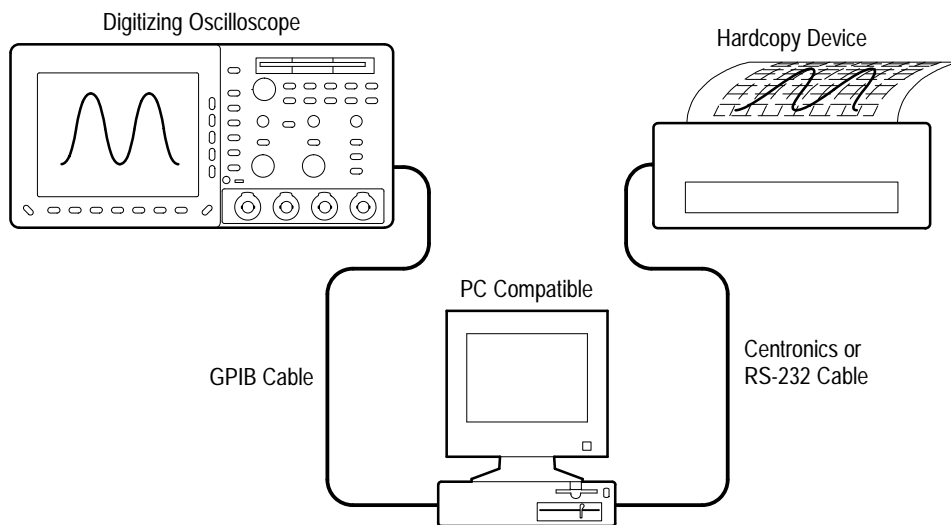

Figure 3–21: Connecting the Digitizing Oscilloscope and Hardcopy Device Via a PC
**Connect to a Hardcopy Device.** To connect to a controller with two ports between the digitizing oscilloscope and the hardcopy device, connect from the digitizing oscilloscope GPIB connector (rear panel) to the controller GPIB port and from the controller RS-232 or Centronics port to the hardcopy device (see Figure 3–21). Use the GPIB port to remotely request and receive a hardcopy from the digitizing oscilloscope. Use the RS-232 or a Centronics port on the controller to print output.